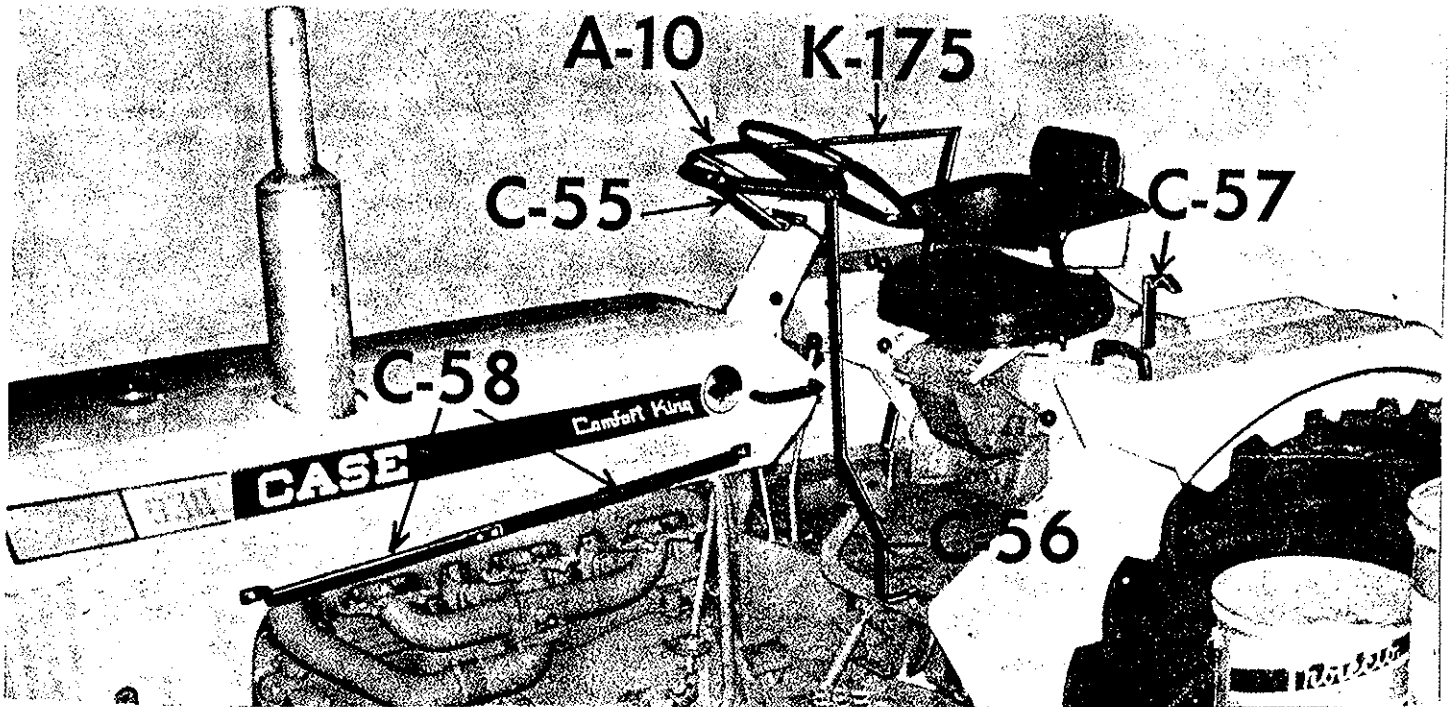

Figure 1
2. Bolt the two C-58 exhaust guards together using 5/16" x 3/4" bolts and bolt to left side of tractor using bolts in tractor hood for fastening to tractor. See Figure 1.
3. Bolt the C-55 mounting bracket to steering post using U-bolt. See Figure 1.
4. Thread K-175 side arm into wide hem on right hand side of canvas. Also insert A-10 yoke in front top hem. Bolt A-10 and K-175 together using 3/8" x 1 1/2" bolt and nut. See Figure 1.
5. Place canvas over tractor and bolt A-10 to C-55 using 1/4" x 3/4" hex head bolts and nuts. Bolt lower end of K-175 to tractor fender using 5/16" x 2" bolt and nut. See Figure 1
6. Slide the C-56 door post into wide hem on left side and bolt top to A-10 yoke using 1/4" x 1" bolt and nut. Bolt bottom of C-56 to platform using 3/8" x 1 1/2" bolt and nut. See Figure 1.